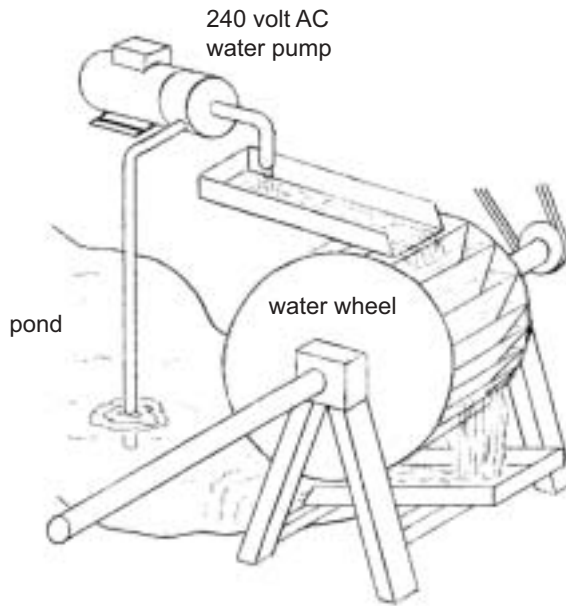

Figure 12
- g. On the diagram below (Figure 12) mark with the letter **X** where you would place **one** item of the test equipment. Write the name of the item next to the letter X.